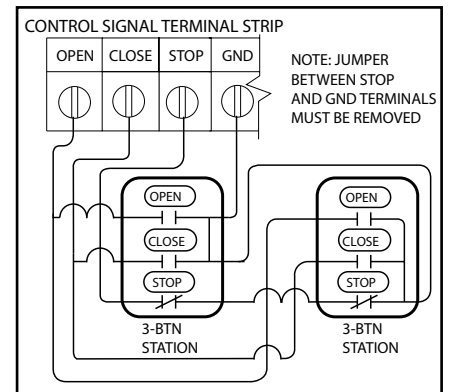

Figure 5
- 3) For a multiple 3 - button installations, make connections as shown in Fig. 5.